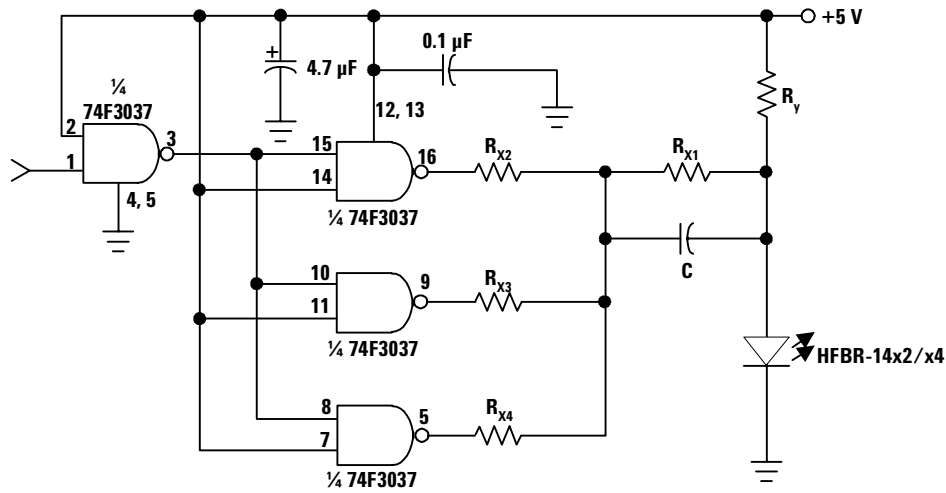

Figure 11. Recommended Drive Circuit.
- Pre-bias is recommended if signal rate $> 10\text{ MBd}$, see recommended drive circuit in Figure 11.
Figure 11 uses frequency compensation to reduce the typical rise/fall times of the LED and a small pre-bias voltage to minimize propagation delay differences that cause pulse-width distortion. The circuit will typically produce rise/fall times of 3 ns, and a total jitter including pulse-width distortion of less than 1 ns. This circuit is recommended for applications requiring low edge jitter or high-